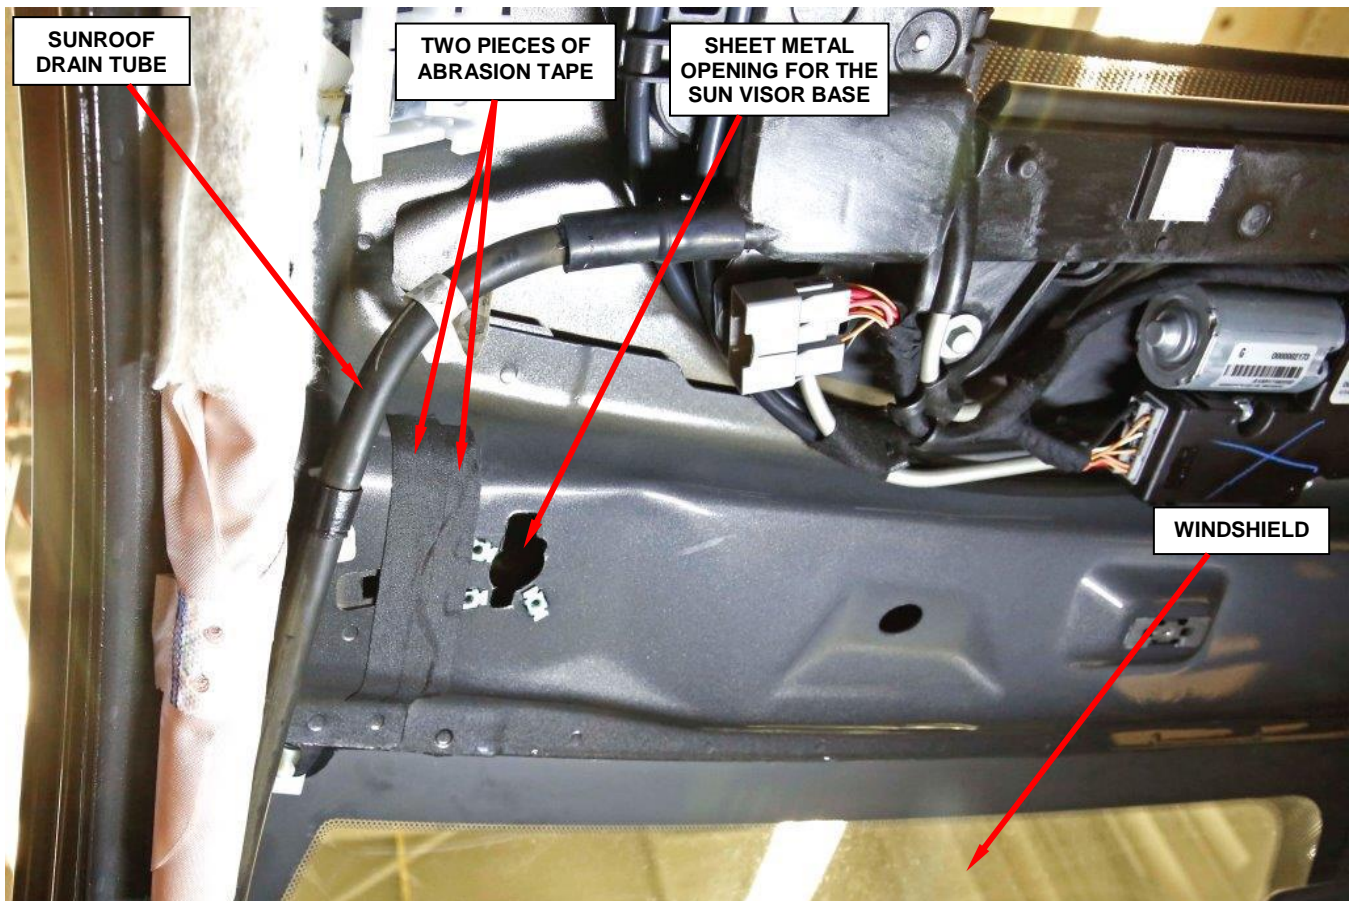

Figure 19 – Apply the Two 5 Inch Strips of Tape Over Sheet Metal Seam (left side shown)
45. Apply the two pieces of cloth abrasion tape over the sheet metal seam located at the top of the “A” pillar (Figure 19).